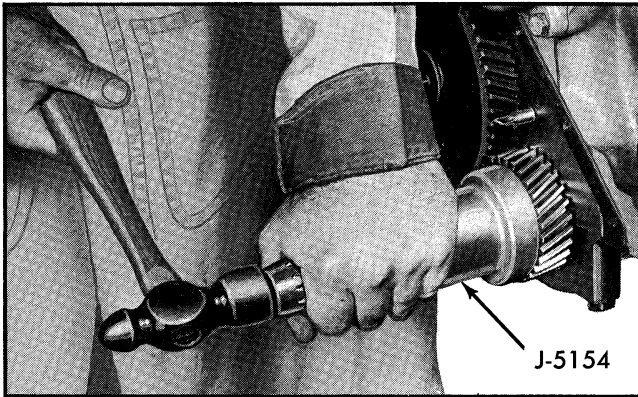

Fig. 6-76 Installing Crankshaft Timing Gear
8. Install crankshaft timing gear with installer tool J-5154 (Fig. 6-76).